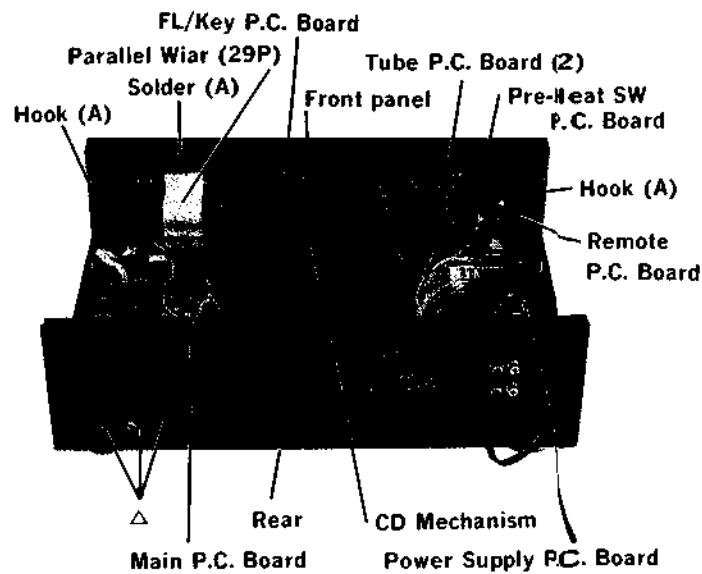

Figure 6 <6図>
- (3) Remove the solder (A) as shown in Figure 6. Note: Be careful not to damage the parallel wires (29P) when removing the solder (A).
- (5) Remove the hook (A) located in the two places as shown in Figure 6.
- (6) Disconnect all wires connected to the following P.C. Boards: FL/Keyboard P.C. Board, Tube P.C. Board (1)/(2), Remote P.C. Board, Pre-Heat SW. P.C. Board, Head-Phone Jack P.C. Board.
- (7) The Front Panel can now be removed with the following P.C. Boards in place: FL/Keyboard P.C. Board, Tube P.C. Board (1)/(2), Remote P.C. Board, Pre-Heat SW. P.C. Board, Head-Phone Jack P.C. Board, Fade P.C. Board.
- (1) After removing the Top Cover, remove the seven screws marked "△" as shown in Figures 6 and 8.